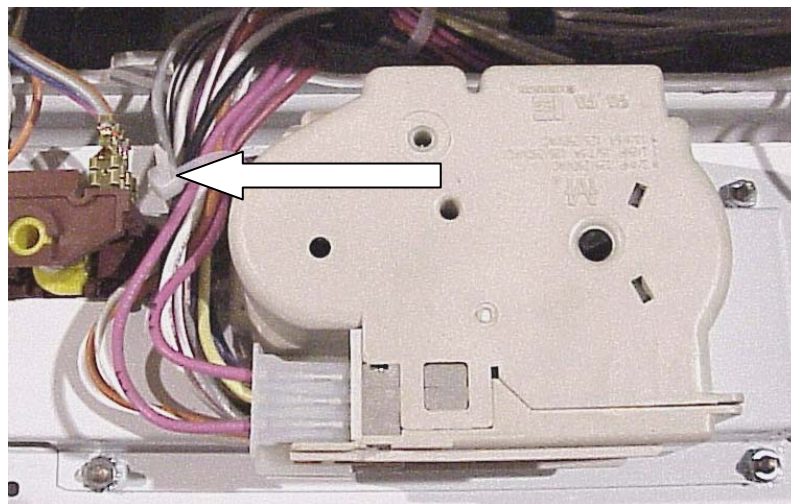

Figure 2
5. Remove the plastic wire tie around the wire harness connected to the timer (see Figure 2).